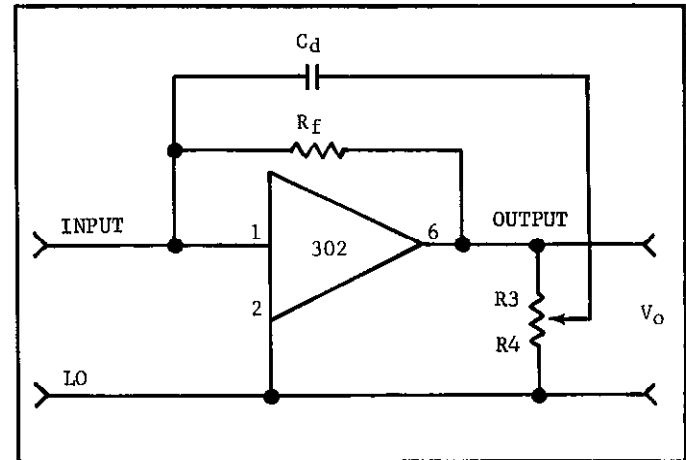

FIGURE 6. Linear Amplifier With Variable Damping.
c. Linear Current Amplifier With Variable Damping. In this configuration, a damping capacitor C_d is connected between the Input (Pin 1) and the Output (Pin 6) for fixed damping or through a fractional feedback divider composed of R_3 and R_4 as shown in Figure 6.